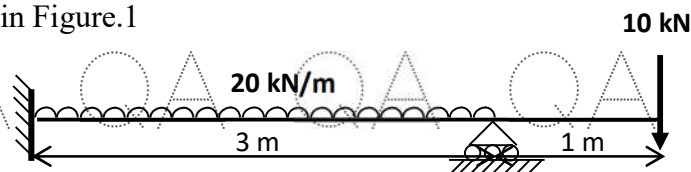

Figure. 1
2. Draw the shear force and bending moment diagrams of the beam supported and loaded as shown in Figure.1 [10]